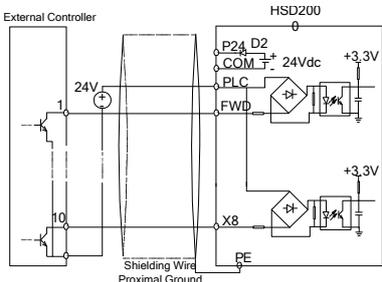

Figure 4-18: Internal +24V Power Supply Servo Drive Drain Connection
2) The servo drive internal + 24V power supply shall be used. The external controller connection mode is NPN common emitter output. It is shown in figure 4-18: (wiring between PLC and P24 terminal shall be removed).